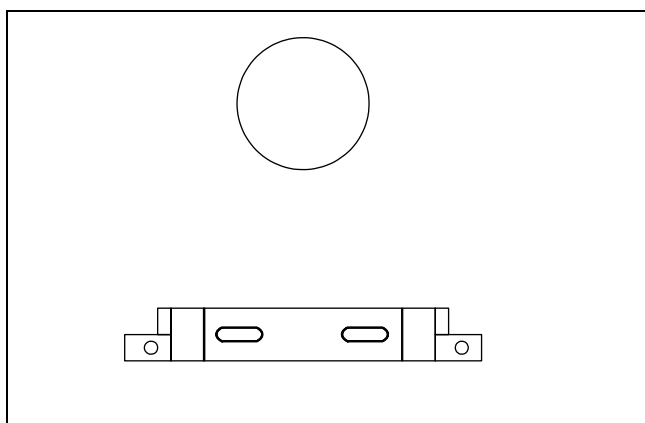

Figura 3
4. Through the plastic anchors provided, fix the support bracket on the wall, being sure that the holes placed on the two sides are positioned in the lower part of the bracket (see Figura 3). Be also sure that the bracket is horizontal.